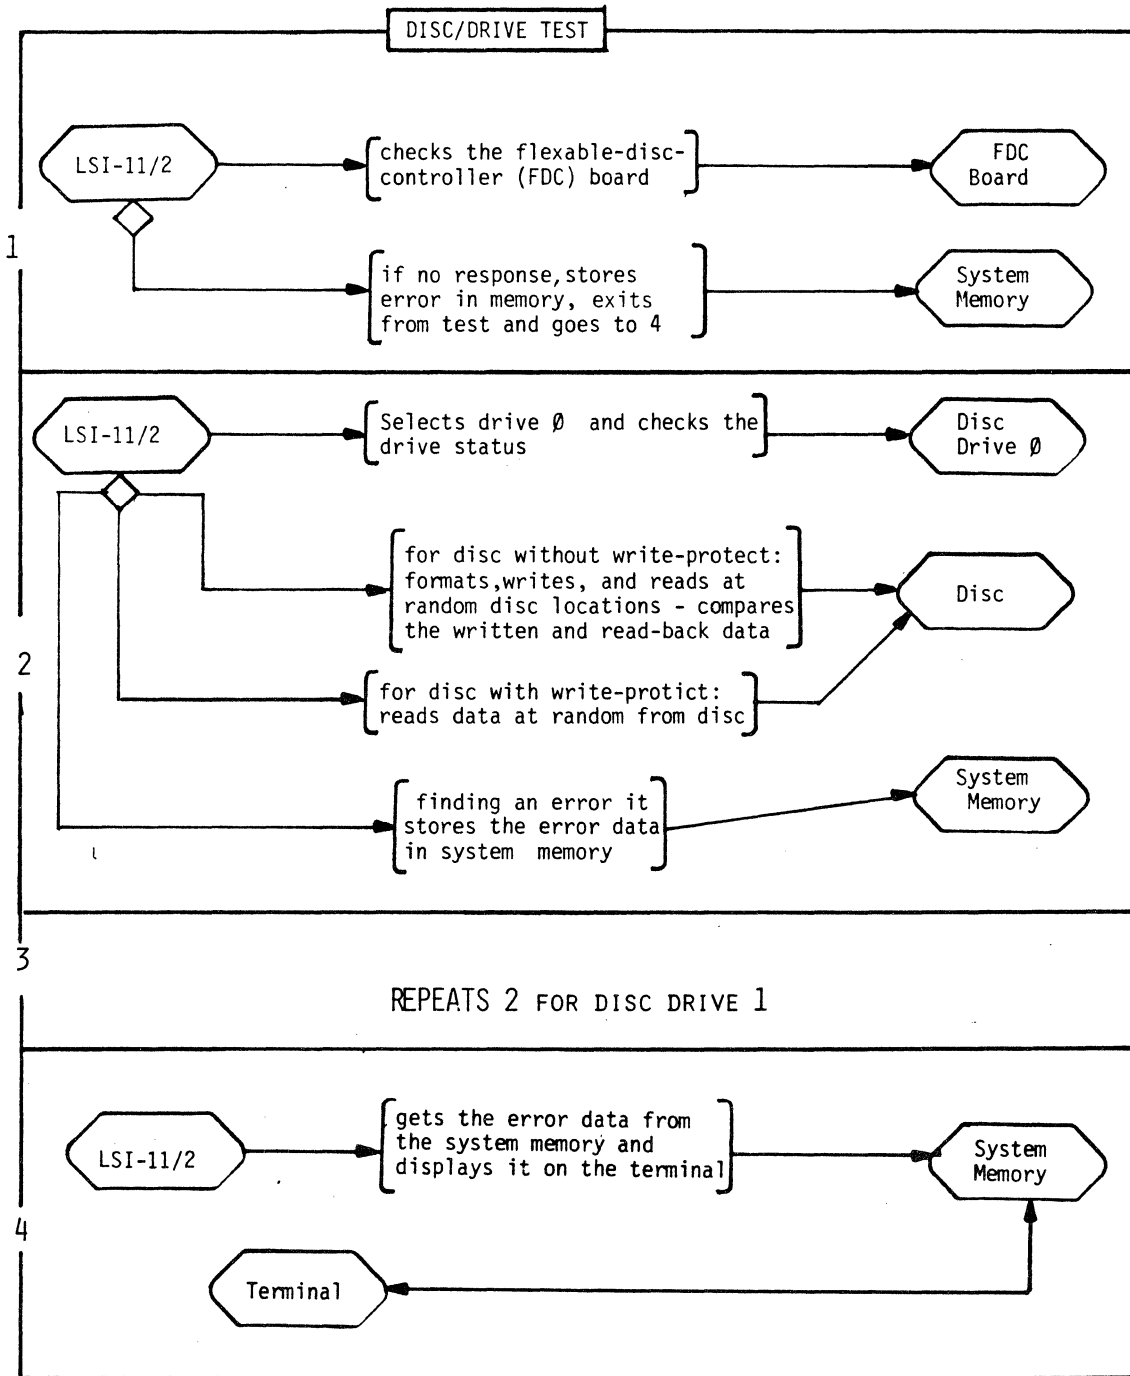

Fig. 4-24. Disc/Drive test.
1. TEST BOARD RESPONSE (Fig. 4-24). The DISC/DRIVE test checks if the Flexible Disc Controller (FDC) board will respond. If the test does not get a response, it stores an error in system memory and exits from the test.